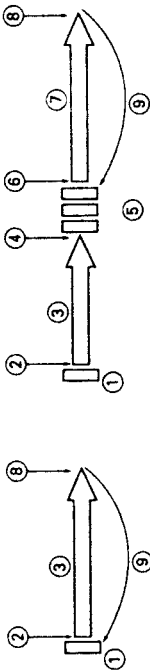

Figure 12
- ② When the PLAY/PAUSE button is pressed, playback starts and the cue point is stored in the memory.
- ③ Playing
- ④ The pause mode is set when the PLAY/PAUSE button is pressed again.
- ⑤ Playback resumes when the PLAY/PAUSE button is pressed again.
- ⑥ Pausing
- ⑦ Playing
(6) Cueing
- Figure 12 shows the relationship between the play and back cue operations.